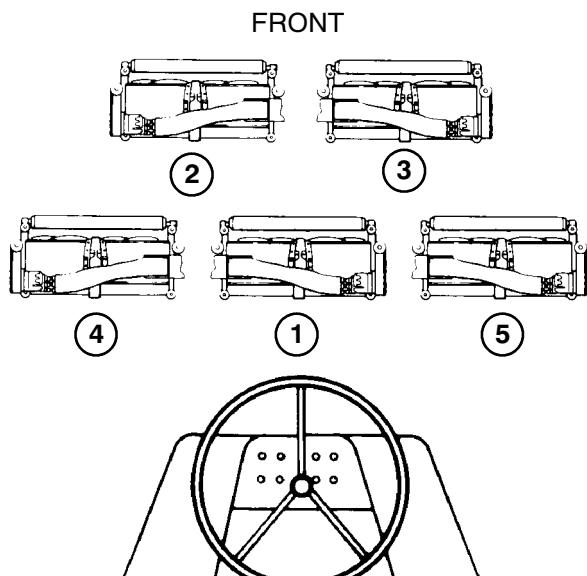

Figure 1
- Refer to Figure 1 and layout all five cutting units on the floor in front of the machine. Position 3 right-hand cutting units (all three are alike) as #1, #3 and #5. Position the left-hand #2 and #4 cutting units also (both are alike).